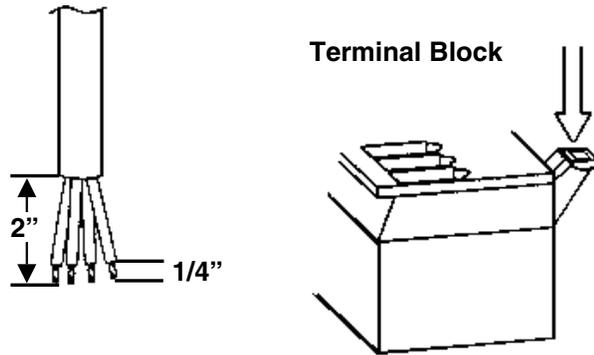

Figure No. 16
2. Remove 2" of the outer insulation jacket then remove 1/4" of insulation from each of the four (4) wires and shield without sense leads or six (6) wires and shield with sense leads (refer to Figure No. 16).
3. Remove 2" of the outer insulation jacket then remove 1/4" of insulation from each of the wires (refer to Figure No. 16).
3. With the AC wiring in the enclosure, remove 1/4" of insulation from each of the wires (refer to Figure No. 16).